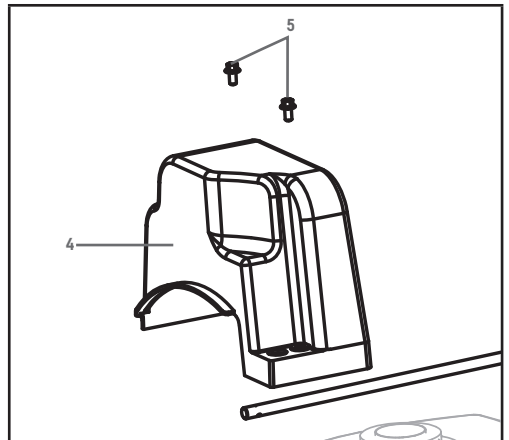

Figure 22D
4. Remove the plastic belt cover (4) on the front of the engine by removing two M6 × 16 bolts (5) (Fig. 22D).